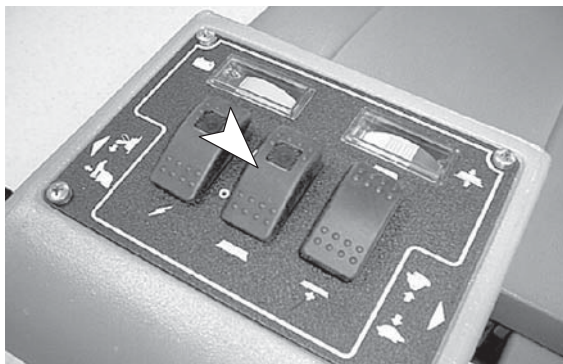

FIG. 17
8. To transport machine, turn off pad switch and twist control grips. Pad will automatically raise to the transport position (Figure 17).